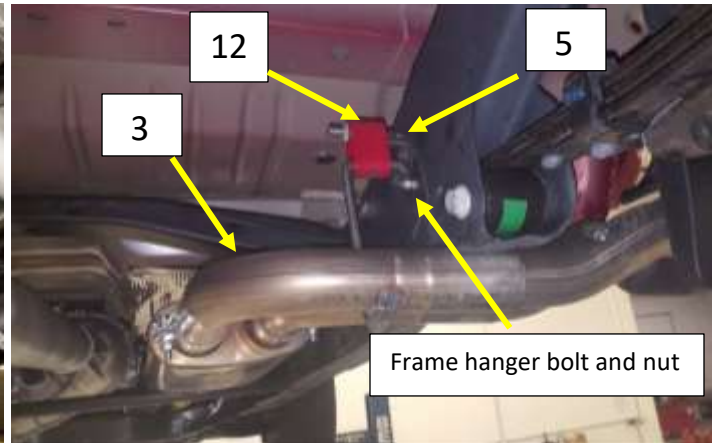

Figure 4
10. Install the red exhaust isolator (12) on to the frame hanger assembly (5). Install the frame hanger assembly and red isolator on to the tailpipe hanger rod, as shown in Figure 4.
11. Install a flat washer (10) on to the 3/8-16 x 4" bolt (8).
12. Install the bolt and washer into the backing plate (4).
14. The bolt should extend through the frame rail and into the center hole of the frame hanger plate. Install a 3/8 flat washer, split washer, and the 3/8 nut. Fig. 4